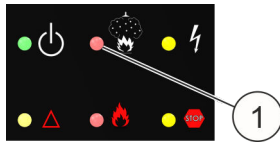

Fig. 23: LED "Extinguishing system triggered"
32. ▶ Check whether the LED "Extinguishing system triggered" (Fig. 23 /1) does not light up.